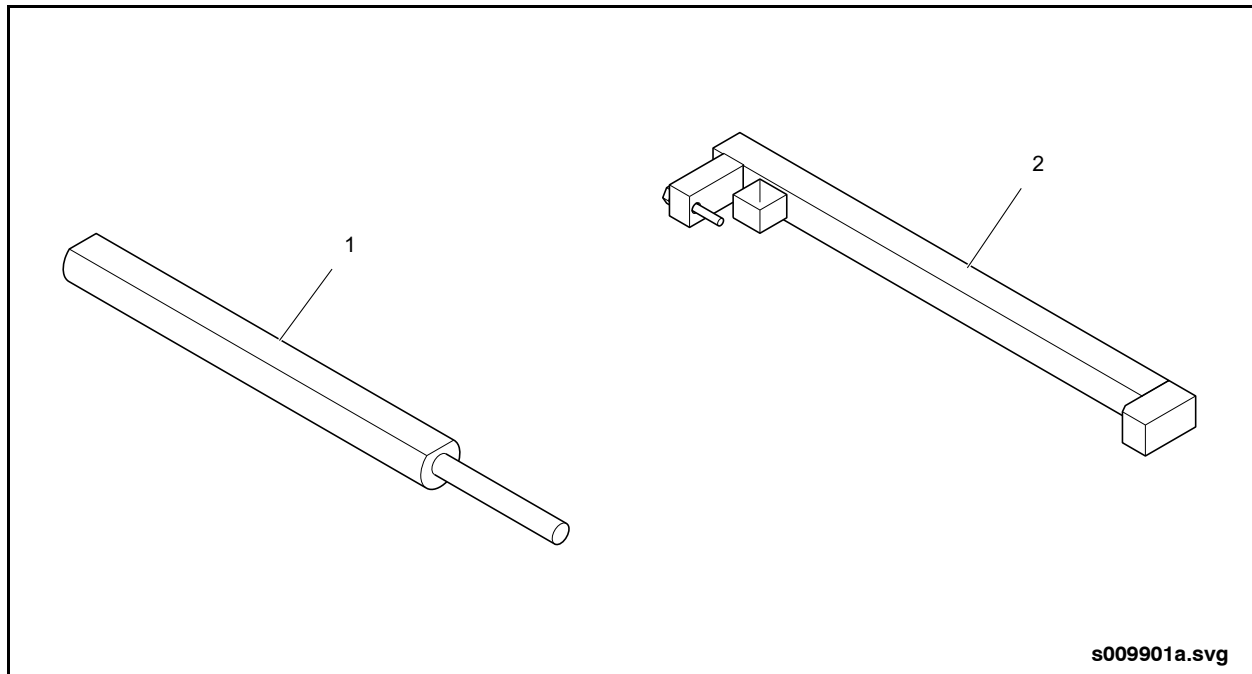

Fig. 3: Special Tools
4. Carefully insert a Punch (Item 1 from the Special Tools List) into the front plunger hole and use a mallet to drive in the plunger until the tool bottoms out against the housing. See "Fig. 3: Special Tools" on page 6.
dures in this section. See “Fig. 3: Special Tools” on page 6. Refer to your New Flyer Parts Manual for purchase part numbers.